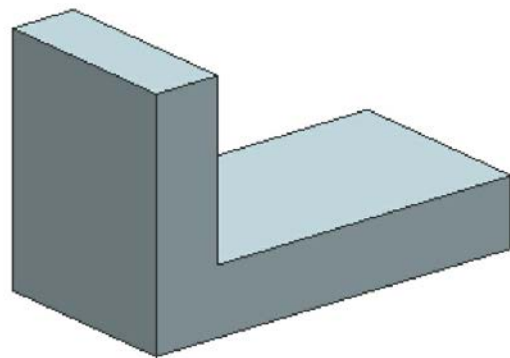

Figure 5-52 Base feature of the model
6. Choose the **OK** button from the dialog box to create the base feature. Turn off the display of the sketch. The base feature of the model is shown in Figure 5-52.